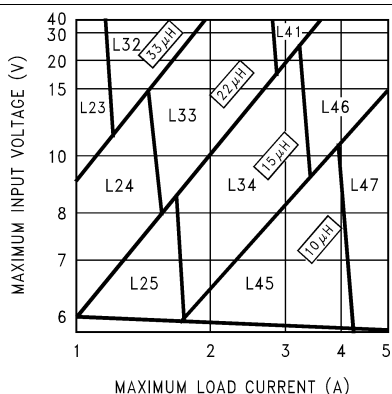
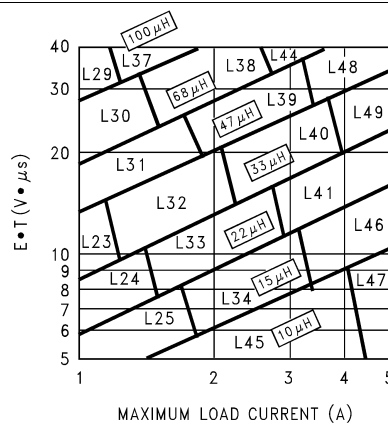

Figure 17. LM2678-3.3
Figure 20. LM2678-Adjustable
Step 3: Determine the inductor required by using one of the four nomographs, Figure 17 through Figure 20. Table 3 provides a specific manufacturer and part number for the inductor.
Step 5: Determine an input capacitor from Table 5 for fixed output voltage applications. Use Table 1 to find the specific capacitor type. For adjustable output circuits select a capacitor from Table 1 with a sufficient working voltage (WV) rating greater than V_{IN} max, and an RMS current rating greater than one-half the maximum load current (2 or more capacitors in parallel may be required).
Step 3: Use the nomograph for the 3.3-V device, Figure 17. The intersection of the 16-V horizontal line ($V_{in \text{ max}}$) and the 4-A vertical line ($I_{load \text{ max}}$) indicates that L46, a 15- μH inductor, is required.